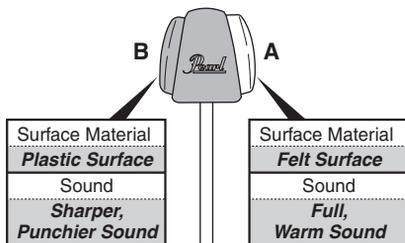

Fig. 1
The DuoBeat Beater features a Felt Surface (A) for a full, warm sound and a Plastic Surface (B) for a sharper, punchier sound. Use the side that best suits your playing style (Fig. 1).